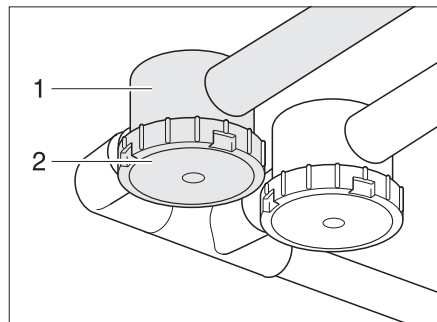

Fig. 180 Odour seal
(Fig. 180,1). The siphons are installed in the waste water pipes.
- Clean the siphons every 6 months at the latest. To do so, unscrew and remove the bottom cover (Fig. 180,2).